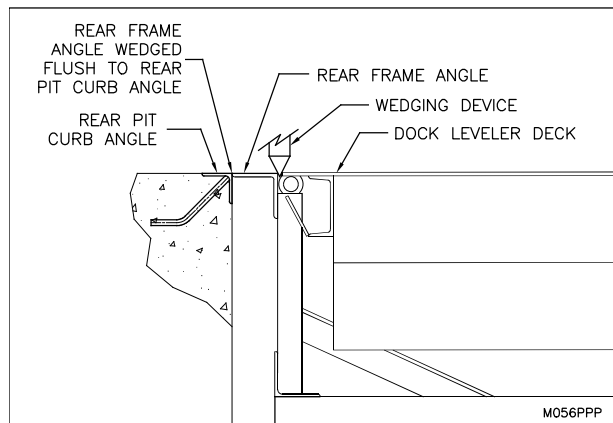

Figure 7: Wedging the Rear Frame Angle to the Rear Pit Curb Angle
16. ___ Make sure the rear pit curb angle is straight and level prior to installation. Make sure the dock leveler rear frame angle (or flat bar) is straight to match the rear pit curb angle. If the rear frame angle (or flat bar) is not straight then force the angle back to match the straight rear pit curb angle using a wedging device between the frame angle and the back of the deck as shown in "Figure 7: Wedging the Rear Frame Angle to the Rear Pit Curb Angle" on page 8. Tack weld the straightened angle to the rear pit curb angle. Repeat the wedging process as required over the length for the rear frame angle.